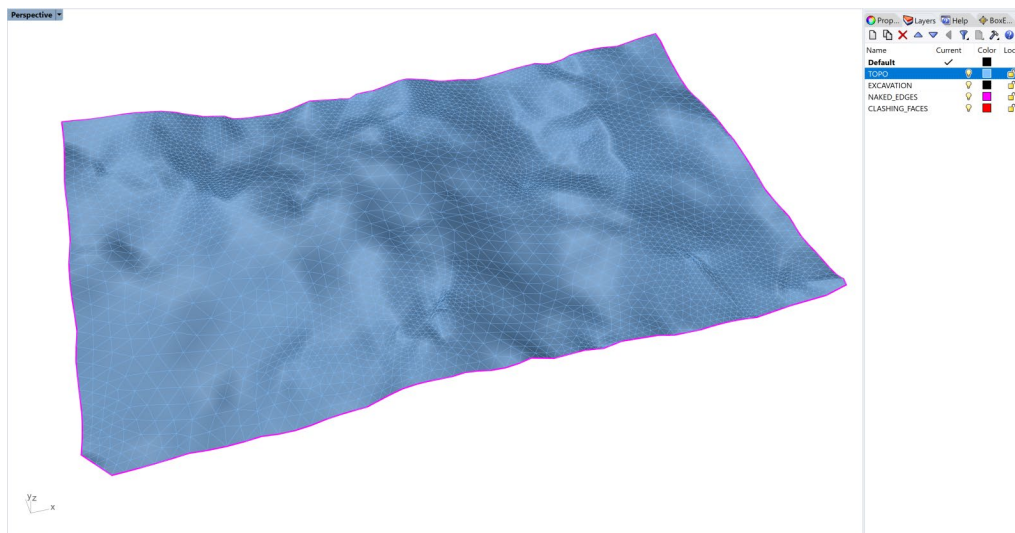

Figure 69: Remeshed and fixed topographic mesh. (The grid is not shown.)
13. Select the topo mesh only and fix the crack using **\_GHeal** → *AutomaticHeal* → *IssuesToFix*, set *MendCracks* = *Yes* and all others to *No*; press **Enter** and keep *Parameters* = *Automatic*. Now the topo mesh contains no issues and has a single naked poly-edge outlining its boundary (Figure 69).